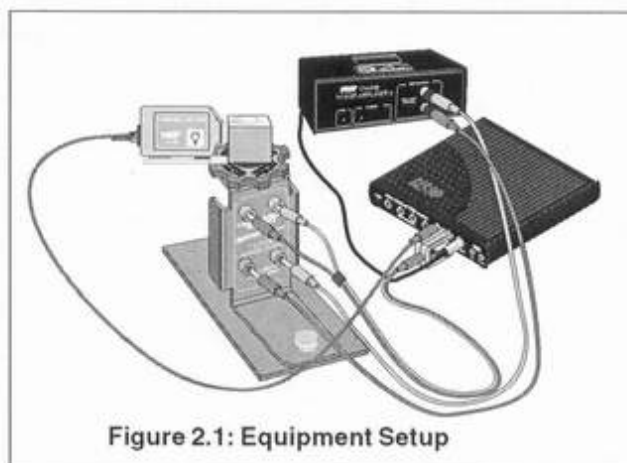

Figure 2.1: Equipment Setup
1. Set up the equipment as shown in Figure 2.1. (For instructions, see "Experiment Setup" on page 7.)